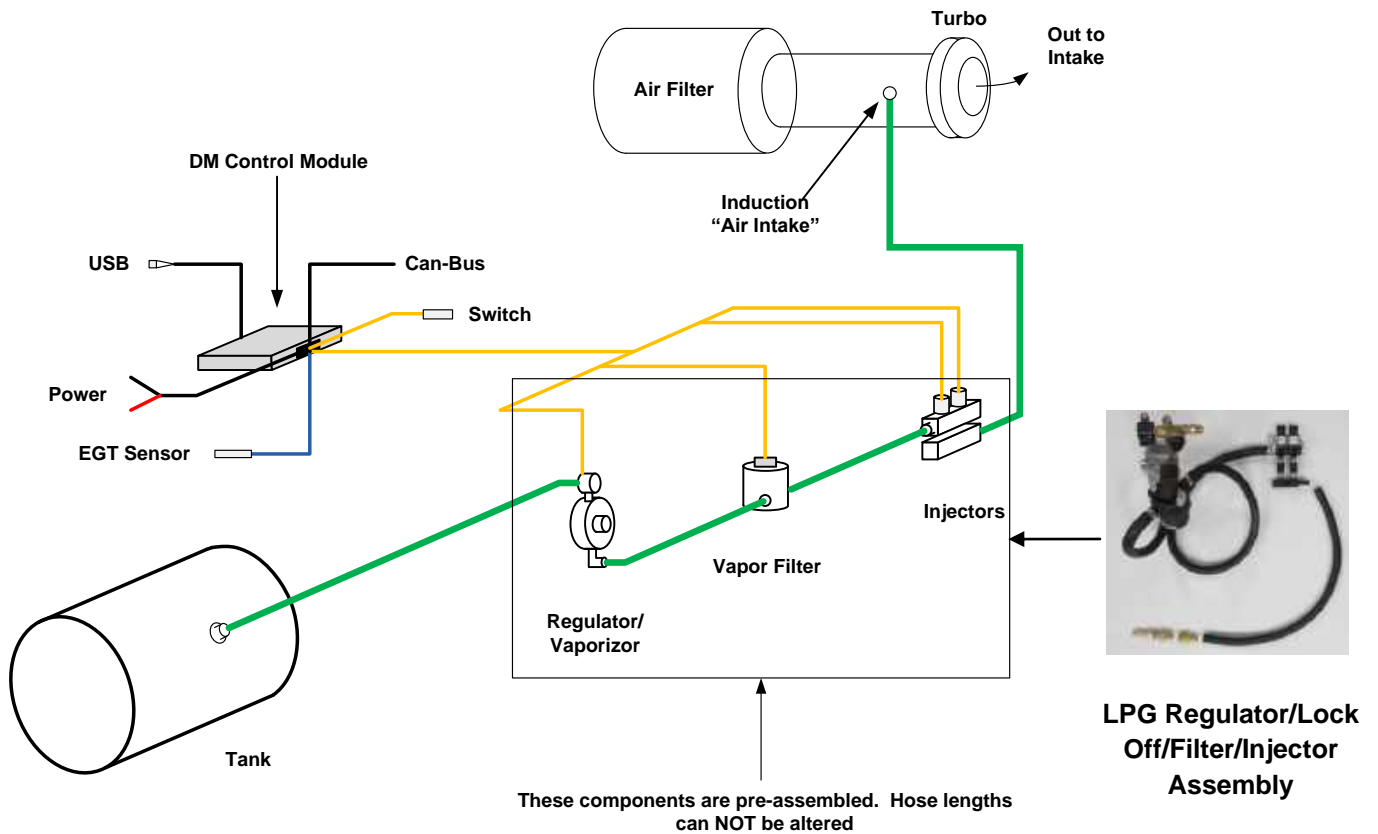

Fig 10
8. When selecting the location for the LPG Fuel Regulator/Lock Off/Filter and Injector Assembly, make sure they are protected from road debris, excessive heat and especially moving parts. These components come pre-assembled and should **NOT** be altered or modified. (fig10).